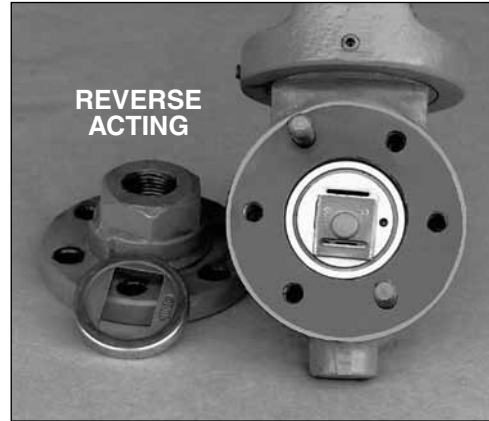

Figure 38
If the hole in the valve plate is to the left and the slot in the valve disc is on the top this valve is set for Direct Acting (see Figure 37). To change the action of the valve to Reverse Acting simply rotate the valve plate and the valve disc 180° so that the hole on the plate is on the right and the slot on the disk is at the bottom (see Figure 38).
- Install the valve-plate and valve-disk for reverse action (see Figure 38).